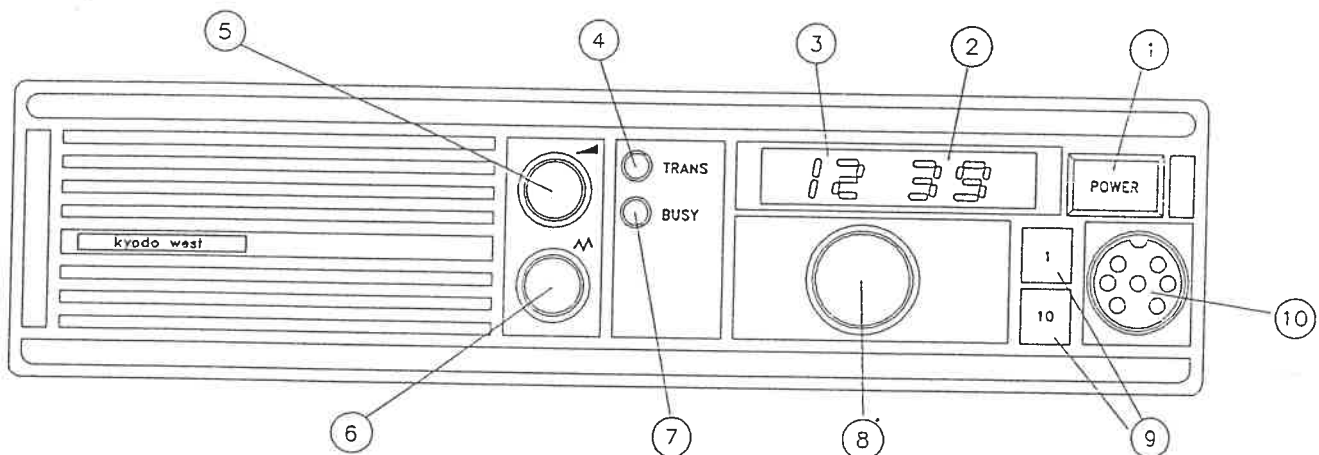

Figure 5-1. Transceiver Controls and Features
The KG106 provides the following features for easy operation of the unit (See Figure 5-1):
Press the Push-To-Talk [PTT] switch (1) on the side of the microphone when you want to talk. Release the switch to hear return messages. The Transmit Indicator lights when you are transmitting (See Figure 5-1).